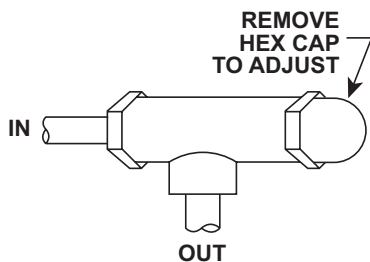

Figure 5-4 – Pressure Relief Valve
1. Remove the hex cap shown in **Figure 5-4**.